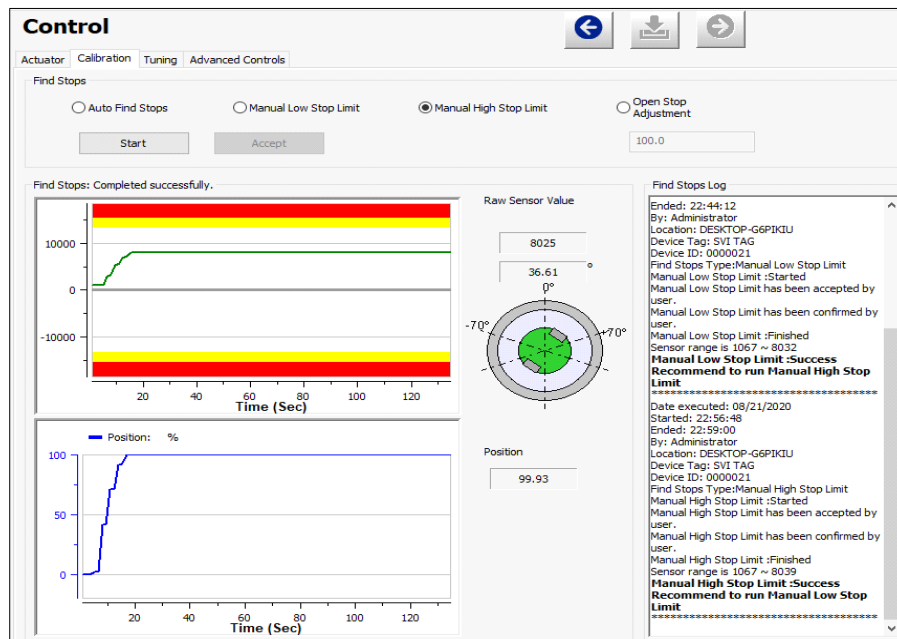

Figure 54 - Manual High Stop Limits Results: Succeeded
6. Click  , the *Find Stops Log* lists detected values, test results appears (Figure 54) and if the test fails a list of reasons.